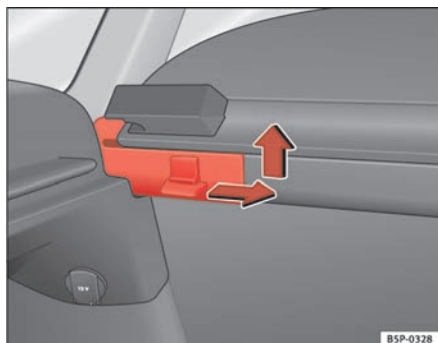

Fig. 124 Removing the luggage compartment cover
- Press the side pin in the direction of the arrow, lift the cover and remove it ⇒ fig. 124.